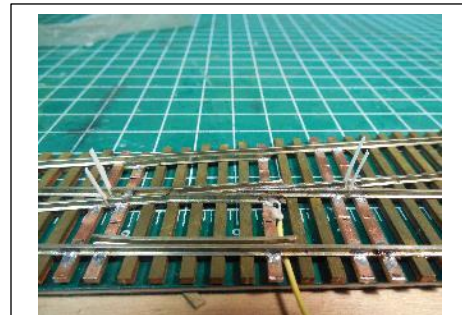

Fig 25 – Styrene inserted for insulation in gaps
13. Gap Insulation. Place styrene (I use .005) in Frog gaps, glue with CA, trim and form to rail (fig 25). Use ohm meter to check for shorts.